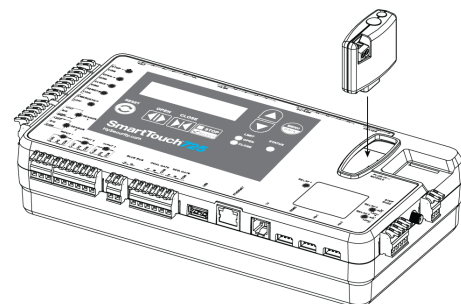

Figure 67. Install OXI Receiver
2. Install the OXI receiver (Figure 67).